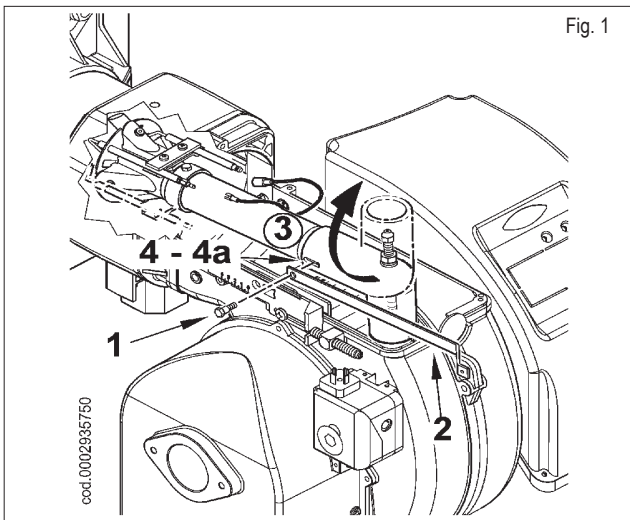

Fig. 1
- 1) Slacken the screws 1 and remove the lid 2 (figure 1).
- 1) Following the instructions in the section entitled "Maintenance", remove the mixer unit and remove the screw (1) connecting the forward movement rod (2) of the unit with the gas delivery pipe (3) passing through the slot (4) in the elbow union (figure 1).
- 2) Turn the elbow union 180° so that the hole in the gas delivery pipe is aligned with the slot (4a) in the diametrically opposed position on the union. Connect up the forward movement rod (2) and the gas delivery pipe (3) with the screw (1) shown in figure 1.